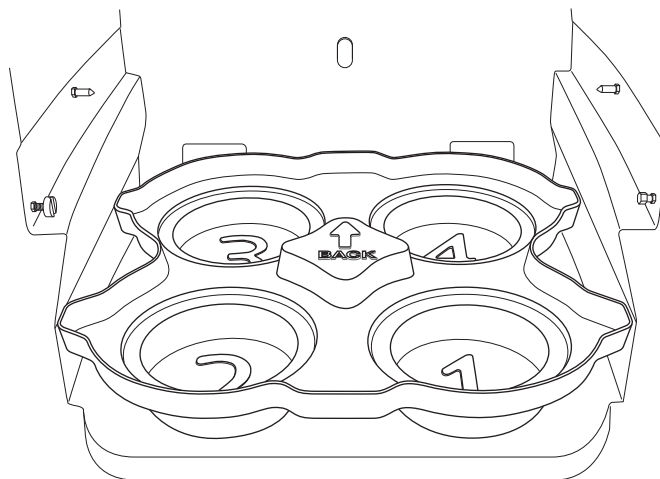

Figure 2-5 Installing the standard locating base
1. Slide the locating base into the bottom of the refrigerated compartment (Figure 2-5). Note that the arrow must be pointing toward the back of the refrigerator.